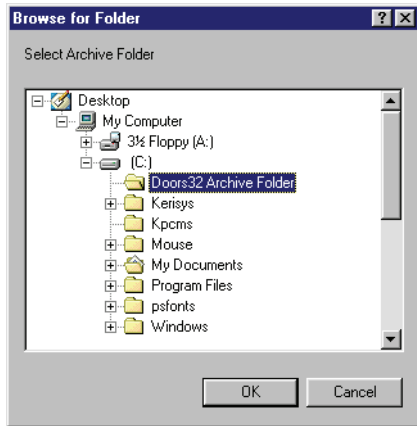

Figure 5-17: Browse for Archive Folder Window
- Click on the  button. The Browse for Archive Folder window will appear. Select the folder you have previously set up for the archives (see Figure 5-17).